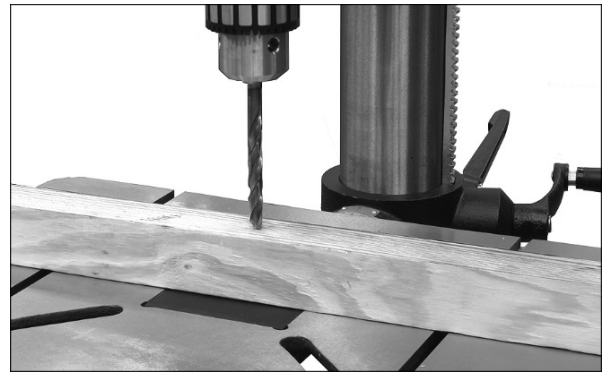

Figure 8-4: method #1
Depth stop can be established by one of two procedures (see Figures 8-4 thru 8-6):
1. Raise the table until the drill bit just contacts the top surface of workpiece, as shown in Figure 8-4.